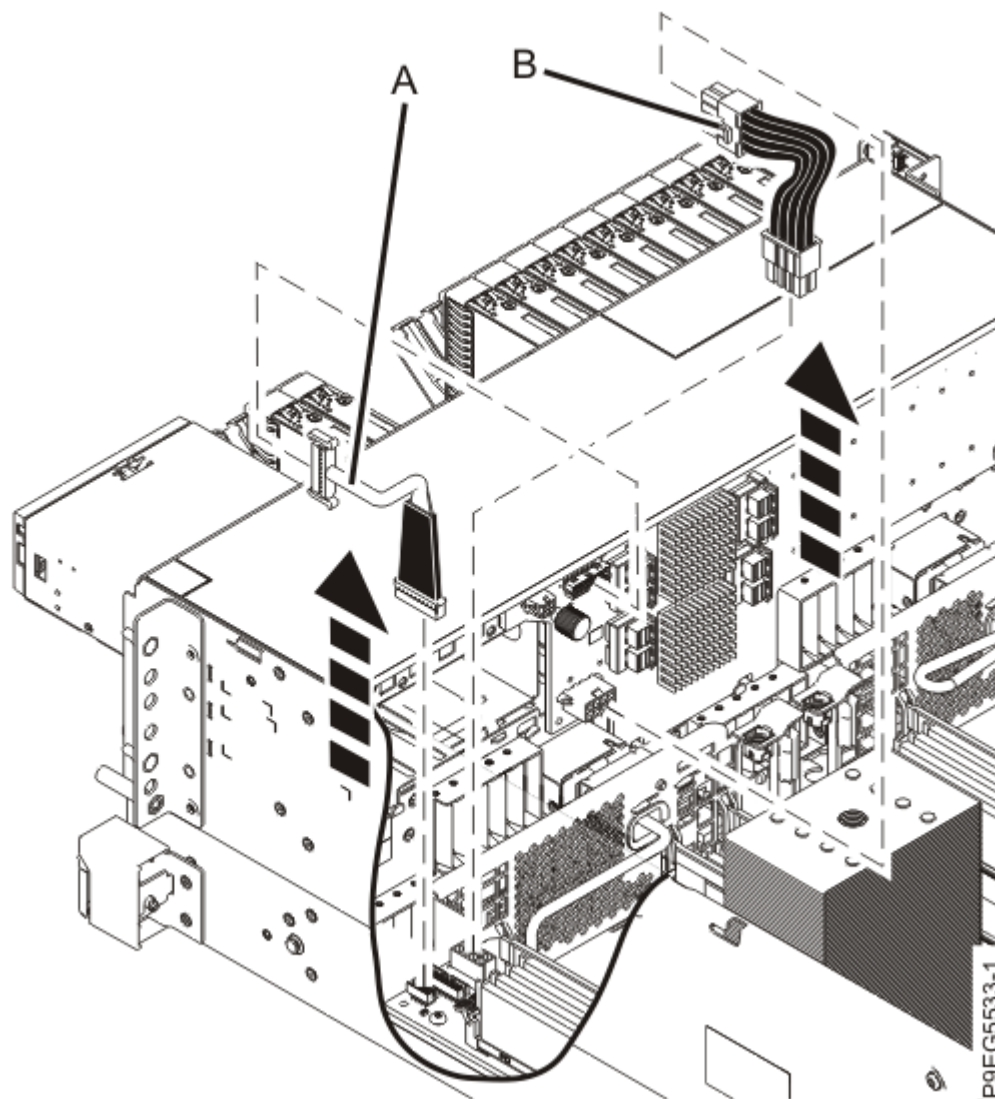

Figure 142. Disconnecting the signal and power cables
3. Label and disconnect the signal cable **(A)** from the drive backplane as shown in Figure 142 on page 160.